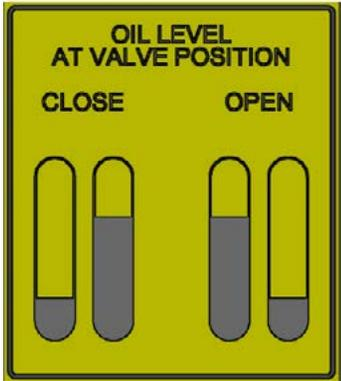

Fig 4.5 Label Oil Level
- Oil level: to indicate the oil level in the gas-oil tank in the open and close position (see Fig 4.5, Fig 4.6 for reference only)